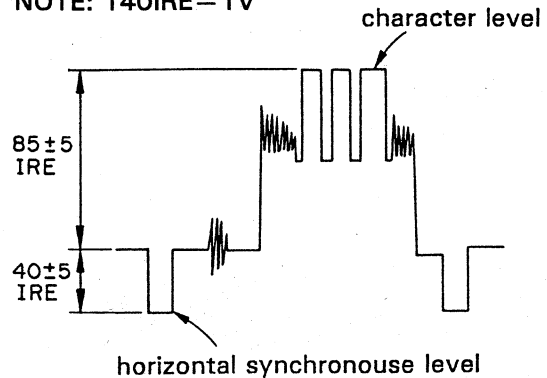

Fig. 1
- Display superimposed characters after the color of the monitor screen changes to blue. Adjust the PLVL (VR803) so that the character level is 85±5 IRE and the horizontal synchronous level is 40±5 IRE. (refer to Fig.1)